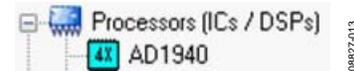

Figure 13. Adding an AD1940
4. To add an **AD1940** to the project, select it from the **Processors (ICs / DSPs)** list and drag it to the project space (see Figure 13).